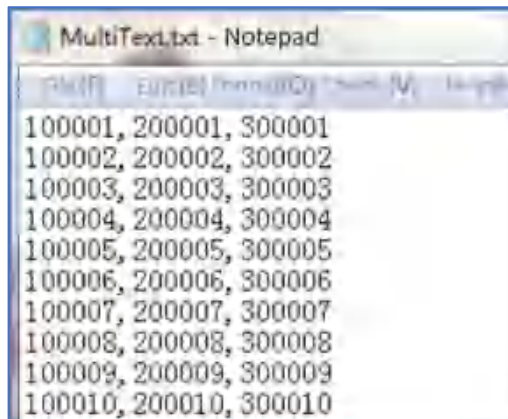

Figure 7-1
1.First enter the required information in the U disk, **and note that the two pieces of information are separated by a comma",** as shown in Figure 7-1.